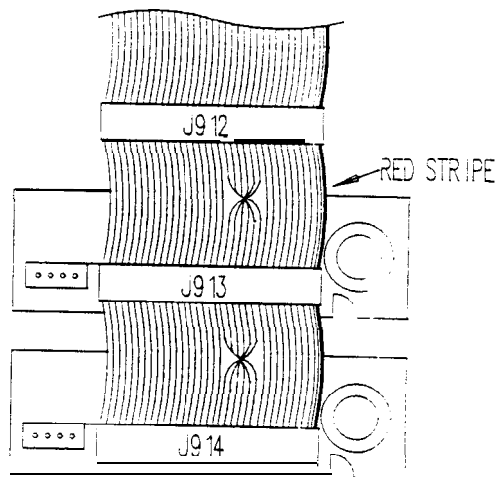

FIGURE 7. W19, Disk Interface Cable connections to Mitsubishi Drives.
65. Connect the new Disk Interface Cable W19, such that the middle connector, J913 is attached to Drive A. Make sure that the red stripe is on the right hand side as viewed from the rear of the drive assembly (see Figure 7). Connect J914 to Drive B,
78. Turn on the power switch. After approximately 20 seconds a "BEEP" should be heard, if not verify Front Panel Interface connectors see Figure 7 page 9. After approximately 60 seconds, the TITLE PAGE appears, signaling a successful "boot-up".